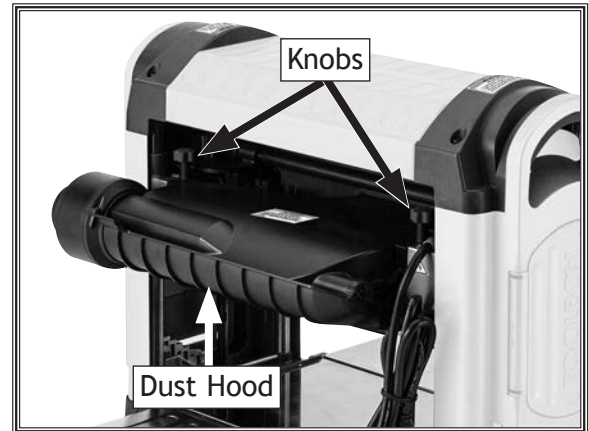

Figure 9. Dust hood installed.
1. Attach dust hood (see **Figure 9**) to frame with (2) M5-.8 x 8 knob bolts.